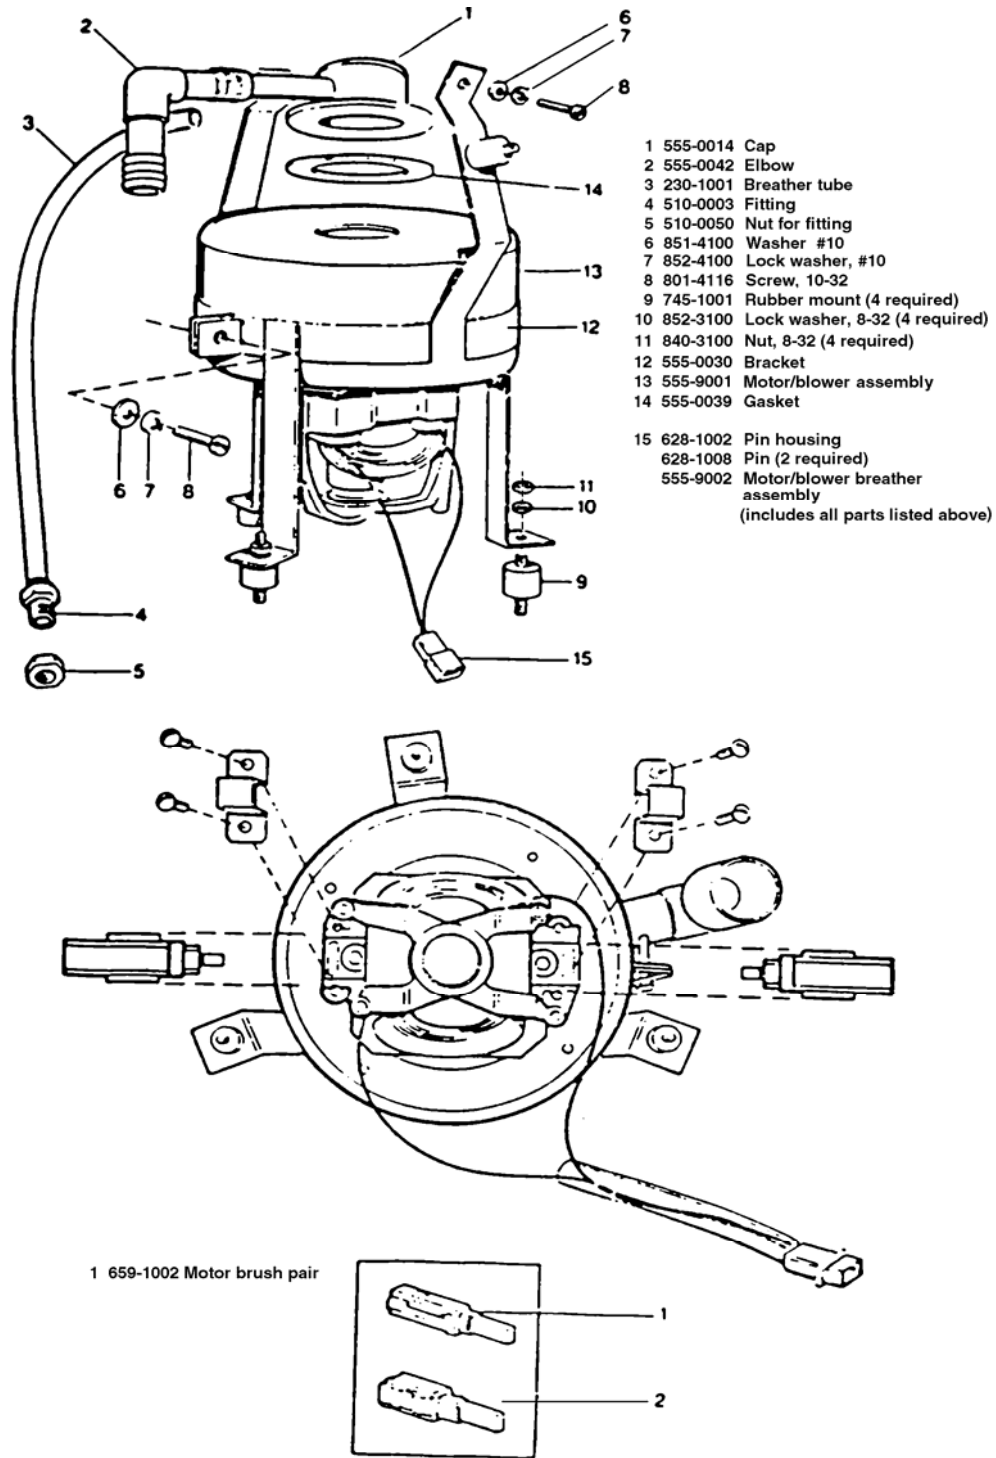

Figure 1-3. Motor removal and brush installation.
c. **Electric Motor.** Refer to figure 1-3. Disconnect the power cord from the wall outlet. Remove the 12 sheet-metal screws securing the front panel. Tip the panel forward and disconnect the black lead at the unit circuit break, unplug the two-pin Jones plug (15) to the motor, and disconnect the white wire at the power cord. Lay the panel out of the way. Remove the one-inch flex tubing (not shown) from the left side of the motor. Disconnect the white 3/8-inch breather tube (3) from the bottom of the cabinet. Remove the hex nuts (11) from the three rubber feet (9) at the three motor-mount brackets. Lift the motor up to clear the studs on the rubber feet. Move the motor to the back of the cabinet, push the motor down and tilt it forward to clear the lip on the front of the cabinet and pull the motor out toward you. Reassemble and replace the motor in the reverse order.
d. **Motor Brushes.** Remove the motor as described above and illustrated in the upper portion of Figure 1-3. Place the motor on its side. Refer to the bottom of Figure 1-3. Remove the two screws on the motor's bottom holding each brush mount. Replace the brushes and reassemble in reverse order.